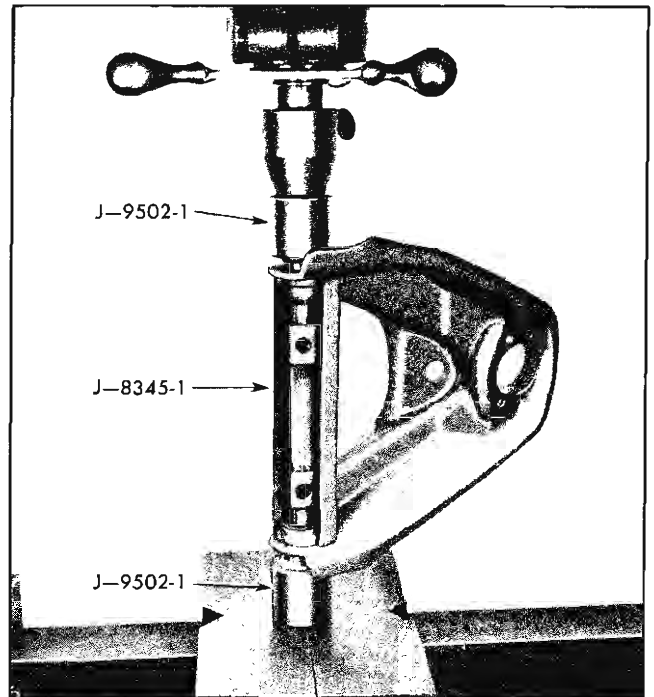

Fig. 3-26 Installing Cross Shaft and Bushing
1. Install cross shaft and bushings and press bushing into arm using J-8345-1 to prevent collapse of control arm (Fig. 3-26).